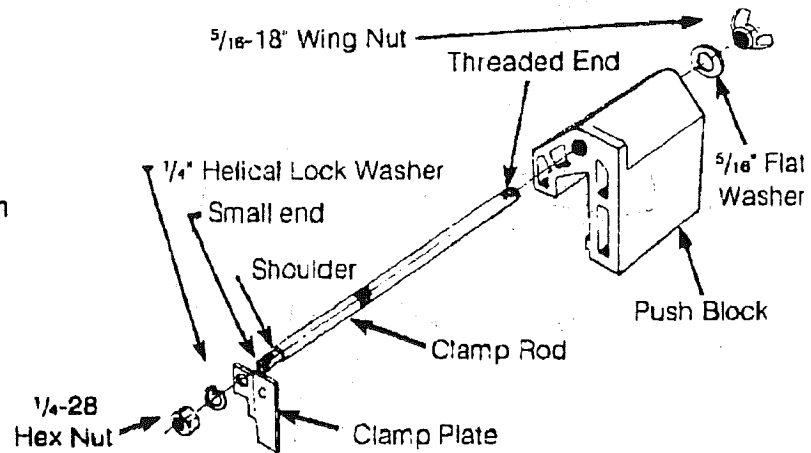

FIGURE 16.
1. Screw the small end of clamp rod into threaded hole in clamp plate until the plate bottoms on it's shoulder (make sure clamp is oriented such that letter "C" is facing outwards as shown in Figure 16).